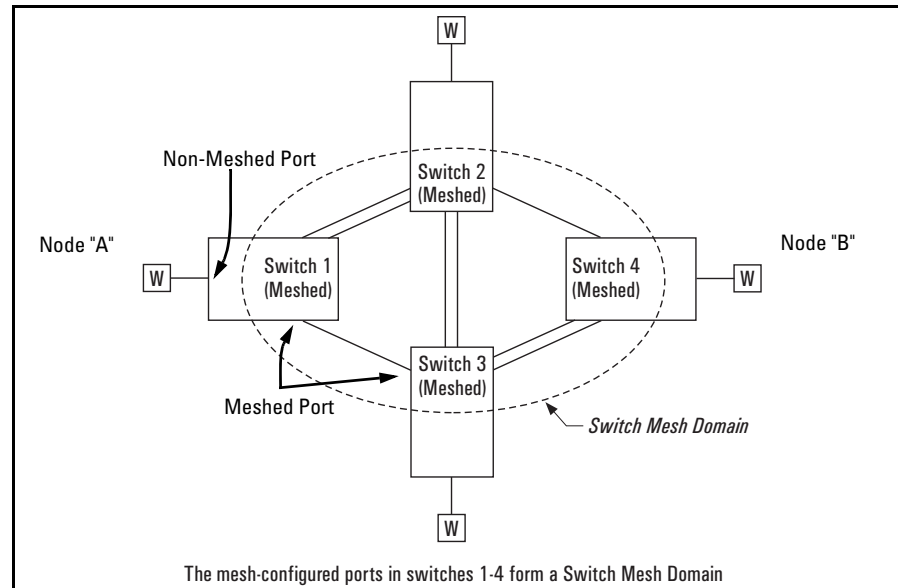

Figure 7-1. Example of Switch Meshing
- A switch mesh domain (figure 7-1 on page 7-2) cannot include either a switch that is not configured for meshing, or a hub.